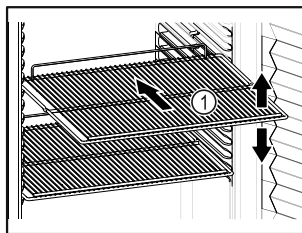

Fig. 60 Example illustration
- ☐ If there are adjustable shelves Fig. 60 (1), position them as required.